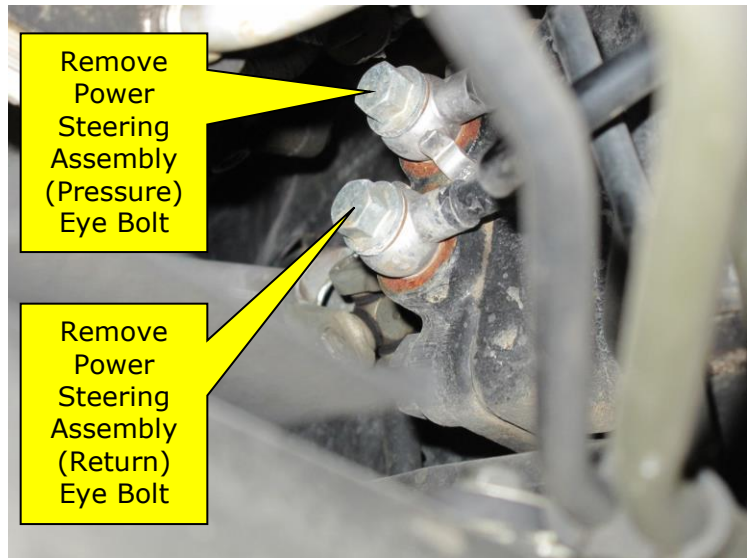

Figure 10
6. Remove Power Steering Hose Assembly (**Pressure & Return**) eye bolts. (Figure 10).